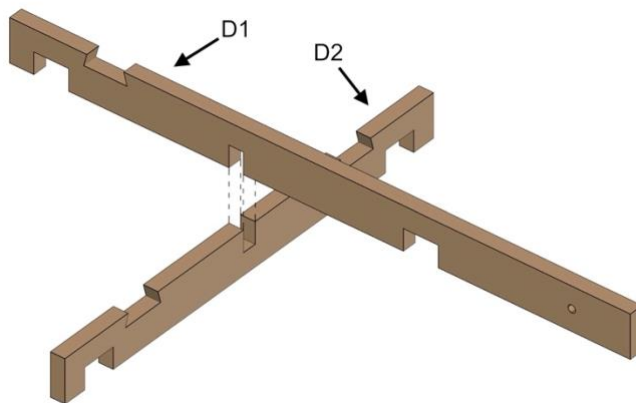

Fig. 31
- Align parts exactly as shown in *Fig. 31*.